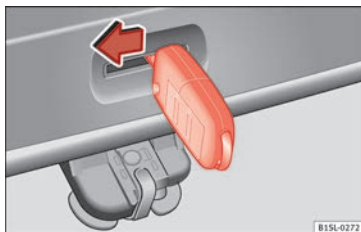

Fig. 7 From the luggage compartment: Emergency unlocking of the booth hatch.
- Insert the key shaft into the rear lid opening » Fig. 7 and press the release lever in the direction of the arrow to unlock the rear lid.